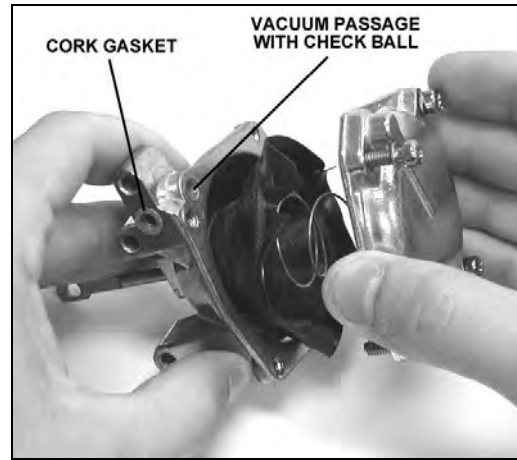

Figure 17
5. Gently remove the cover. Take care as not to tear the diaphragm or loose the check ball (Figure 17).